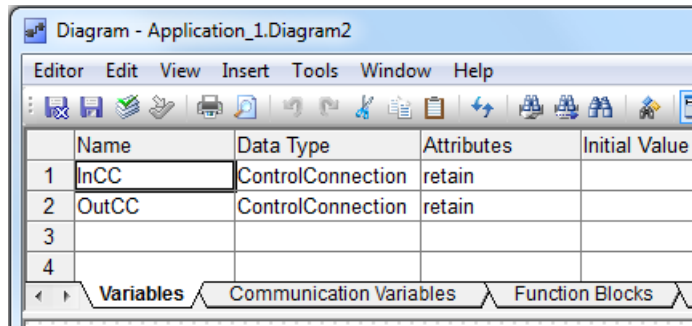

Figure 36. Variables for connecting the CCTemplate object in the diagram
3. In the declaration pane of diagram editor, declare two variables (InCC and OutCC of ControlConnection) according to Figure 36.